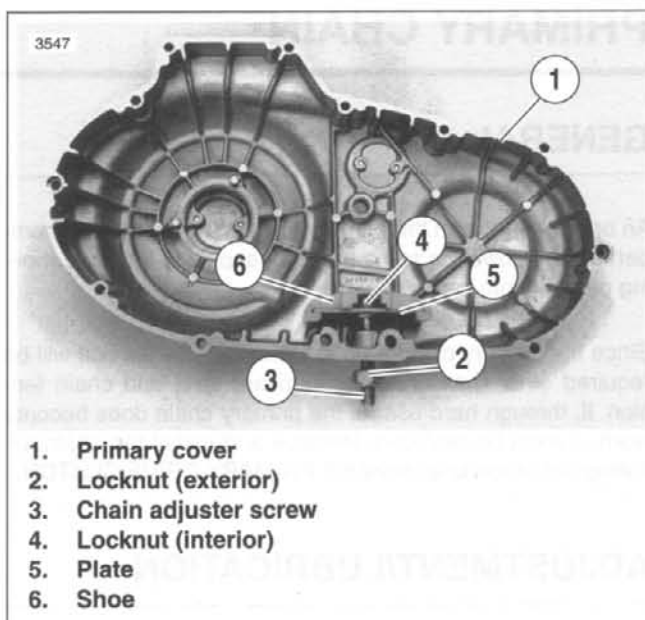

Figure 6-2. Removing Primary Chain Adjuster
1. See Figure 6-2. Remove primary cover (1).
2. Remove locknut (2) from chain adjuster screw (3). Turn adjuster screw out of threaded boss in primary cover.
3. Slide shoe (6) off plate (5) (shoe must be slid off plate toward closed or blind side of shoe). Remove locknut (4) and plate (5).